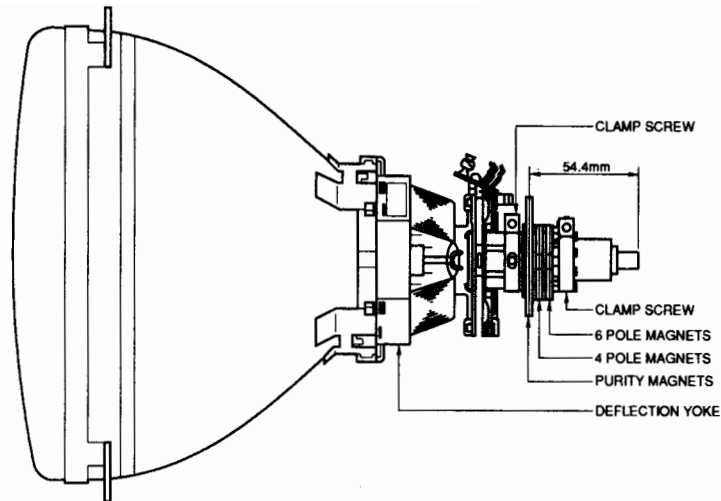
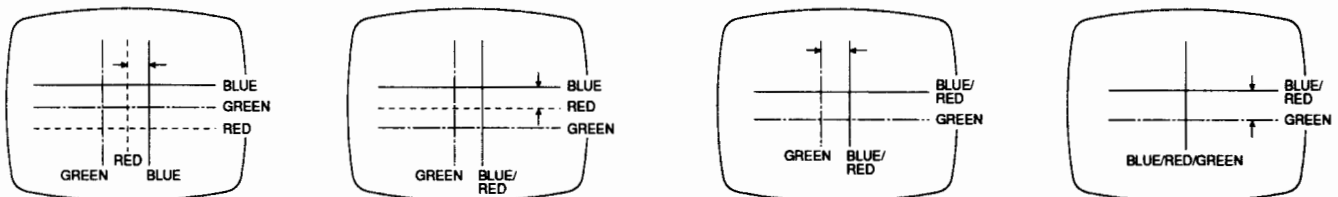

Fig. 8
Fig. 9
1. Check for correct location of all neck components. (Refer to Fig. 8)
STATIC CONVERGENCE ADJUSTMENT (Refer to Fig. 8 & Fig. 9)
IMPORTANT: Before proceeding, check location of the convergence magnet assembly on the neck of the CRT as shown in Fig. 8. The rear edge of this assembly must be positioned 3/4 inch from the tip of the CRT base. If not properly positioned, convergence adjustment may be difficult, if not impossible.